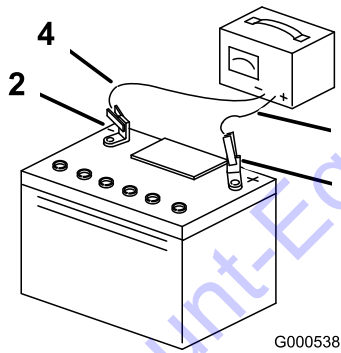

Figure 33
5. When the battery is fully charged, unplug the charger from the electrical outlet, and disconnect the charger leads from the battery posts (Figure 33).